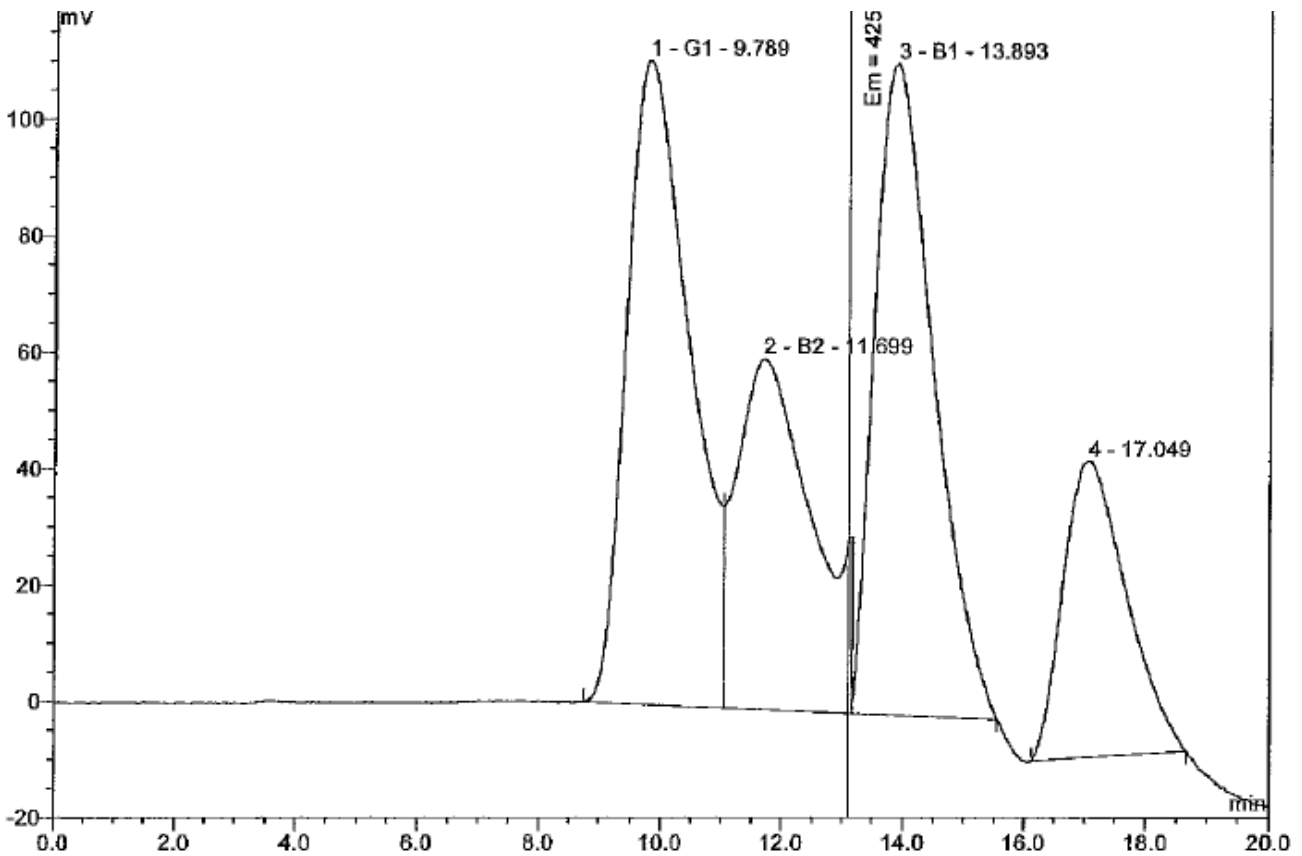

Fig 10. Abnormal Peaks Obtained in Chromatogram
- If abnormal peaks are observed on the HPLC chromatogram it is not normally the KOBRA® CELL that is at fault (Fig. 10).